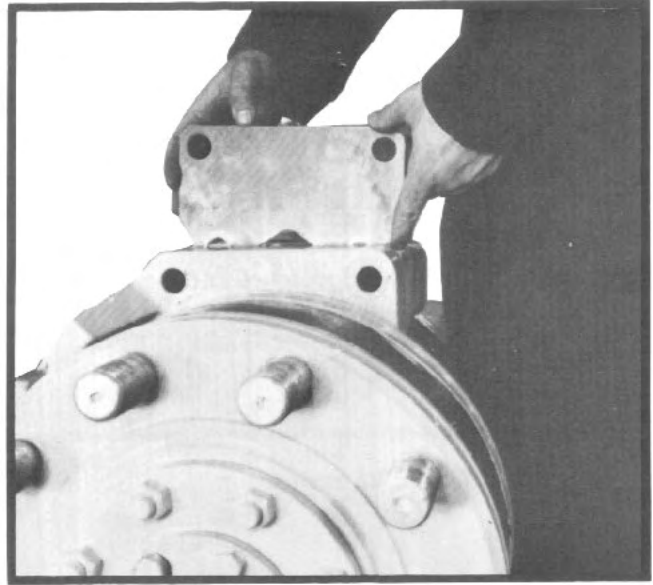

Fig. 6
4. Remove or install shims as necessary to achieve the desired camber (See fig. 6).